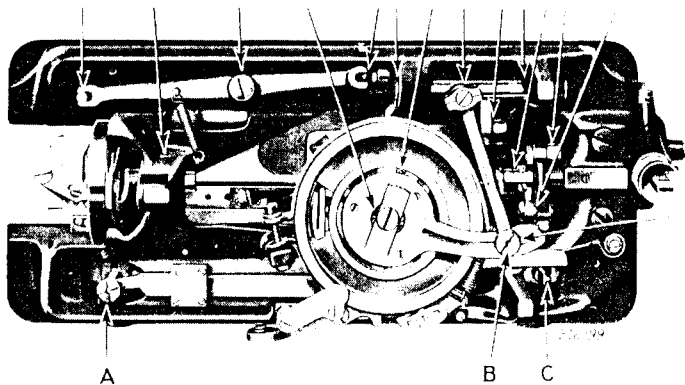
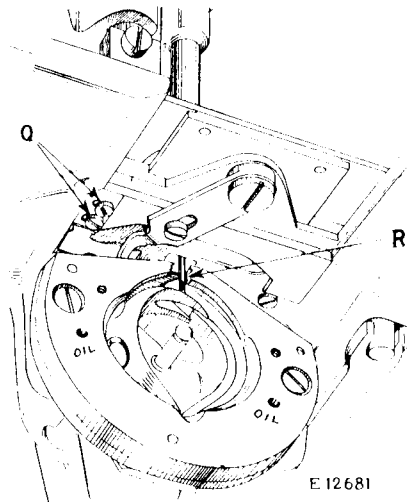
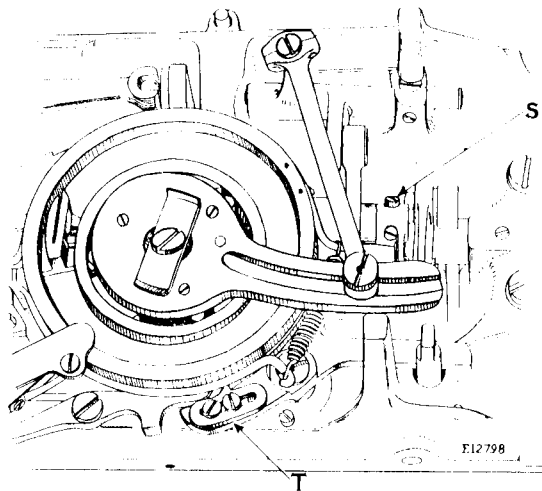

Fig. 18. Oiling Points in the Base of the Machine
Fig. 20. Showing Shuttle Correctly Timed
Fig. 21. Showing Shuttle Crank and Feed Wheel Tripping Point
The distance between the stitches is regulated by the thumb nut (B, Fig. 18) which holds the end of the driving lever pitman in the slotted lever underneath the bed of the machine. To increase the distance between stitches, loosen the thumb nut (B) and move it to the left. To decrease the distance between the stitches, move the thumb nut to the right. When the desired distance between the stitches has been obtained, tighten the thumb nut.
When the knife descends to cut the buttonhole it must enter exactly in the centre of the slit in the needle plate. In case the knife does not enter in the centre of the slit, loosen the thumb screw (A, Fig. 18) under the bed of the machine and move the needle plate until the knife is in the centre of the slit, then tighten the thumb screw.
To reach the parts underneath the bed plate, the machine should be turned over on its hinges, and to do this the belt must be thrown off the pulley of the machine. The points to be oiled are shown in Fig. 18. Oil the shuttle bearing through the two oil holes in the shuttle race (Fig. 20) each time a bobbin is replaced.
has risen about one tenth of an inch. When the needle bar is in this position, the point of the shuttle should be at the centre of the needle and the eye of the needle should be about $\frac{1}{16}$ inch below the point of the shuttle, as shown at R, in Fig. 20. The correct timing of the shuttle is obtained by tightening the upper screw (S, Fig. 21) in the shuttle crank against the flat part of the shuttle shaft.
The feed wheel tripping lever point (T, Fig. 21) should be set so that the clamp slide finishes its movement to the right before the knife descends to cut the buttonhole. In case the clamp slide does not finish its movement to the right at the correct time, loosen the two set screws which hold the point (T) in position and move the point forward to cause the clamp slide to stop its movement to the right earlier, or backward to stop later. When the feed wheel tripping lever point is correctly timed, securely tighten its two set screws.
Turn the machine over on its hinges and remove the two screws (Q, Fig. 20) which hold the under thread trimming blade in position on the underside of the bed, then remove the trimming blade. Place the new trimming blade in position with its cutting edge between the under thread pull-off finger and the needle plate as shown in Fig. 20, and replace the two screws. Lower the trimming blade as far as it will go and adjust it straight then securely fasten it in position by means of the two screws (Q).